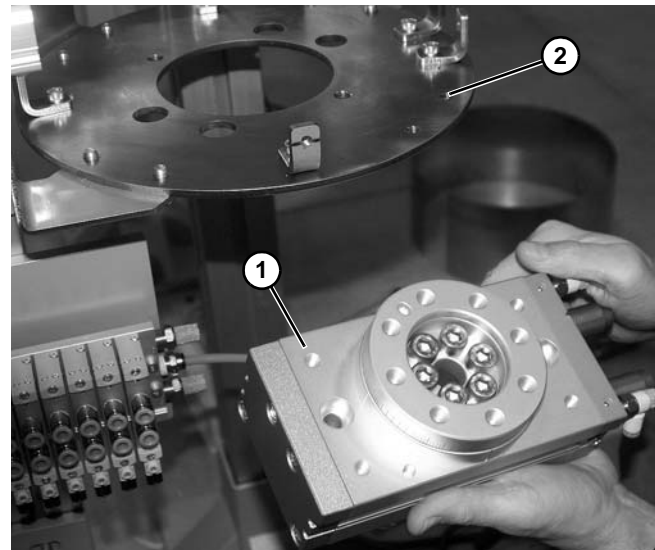

Figure 155
7. Remove cylinder (Figure 155, item 1) from round plate (Figure 155, item 2).